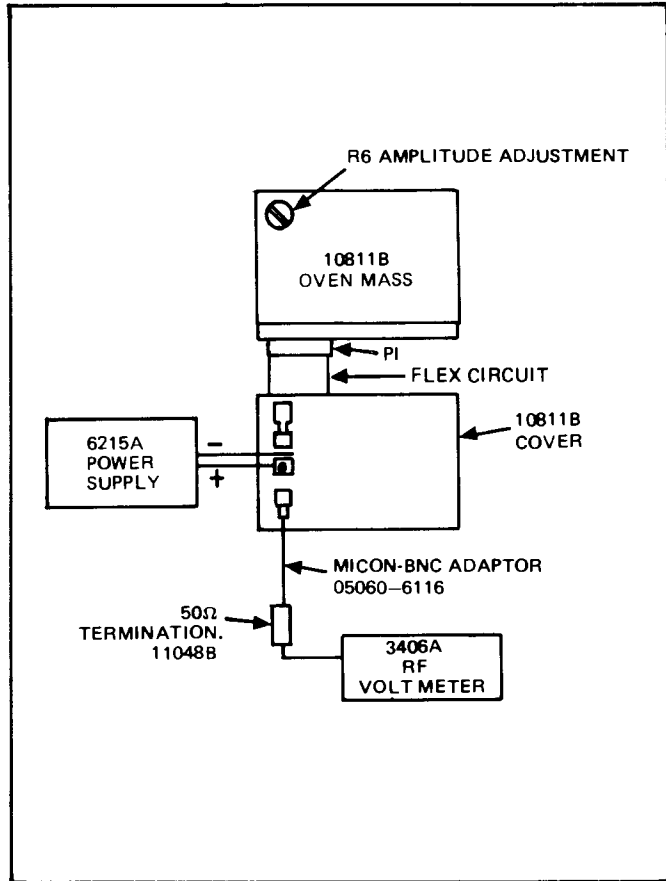

Figure 5-3. 10811B Amplitude Adjustment Set-up
6. For the 10811B, reconnect the flex circuit attached to the bottom cover and connect the 6215A as shown in Figure 5-3. **DO NOT APPLY POWER TO THE OVEN CIRCUITS.** A Micon to BNC adaptor is available for the 10 MHz output (HP Part Number 05060-6116).